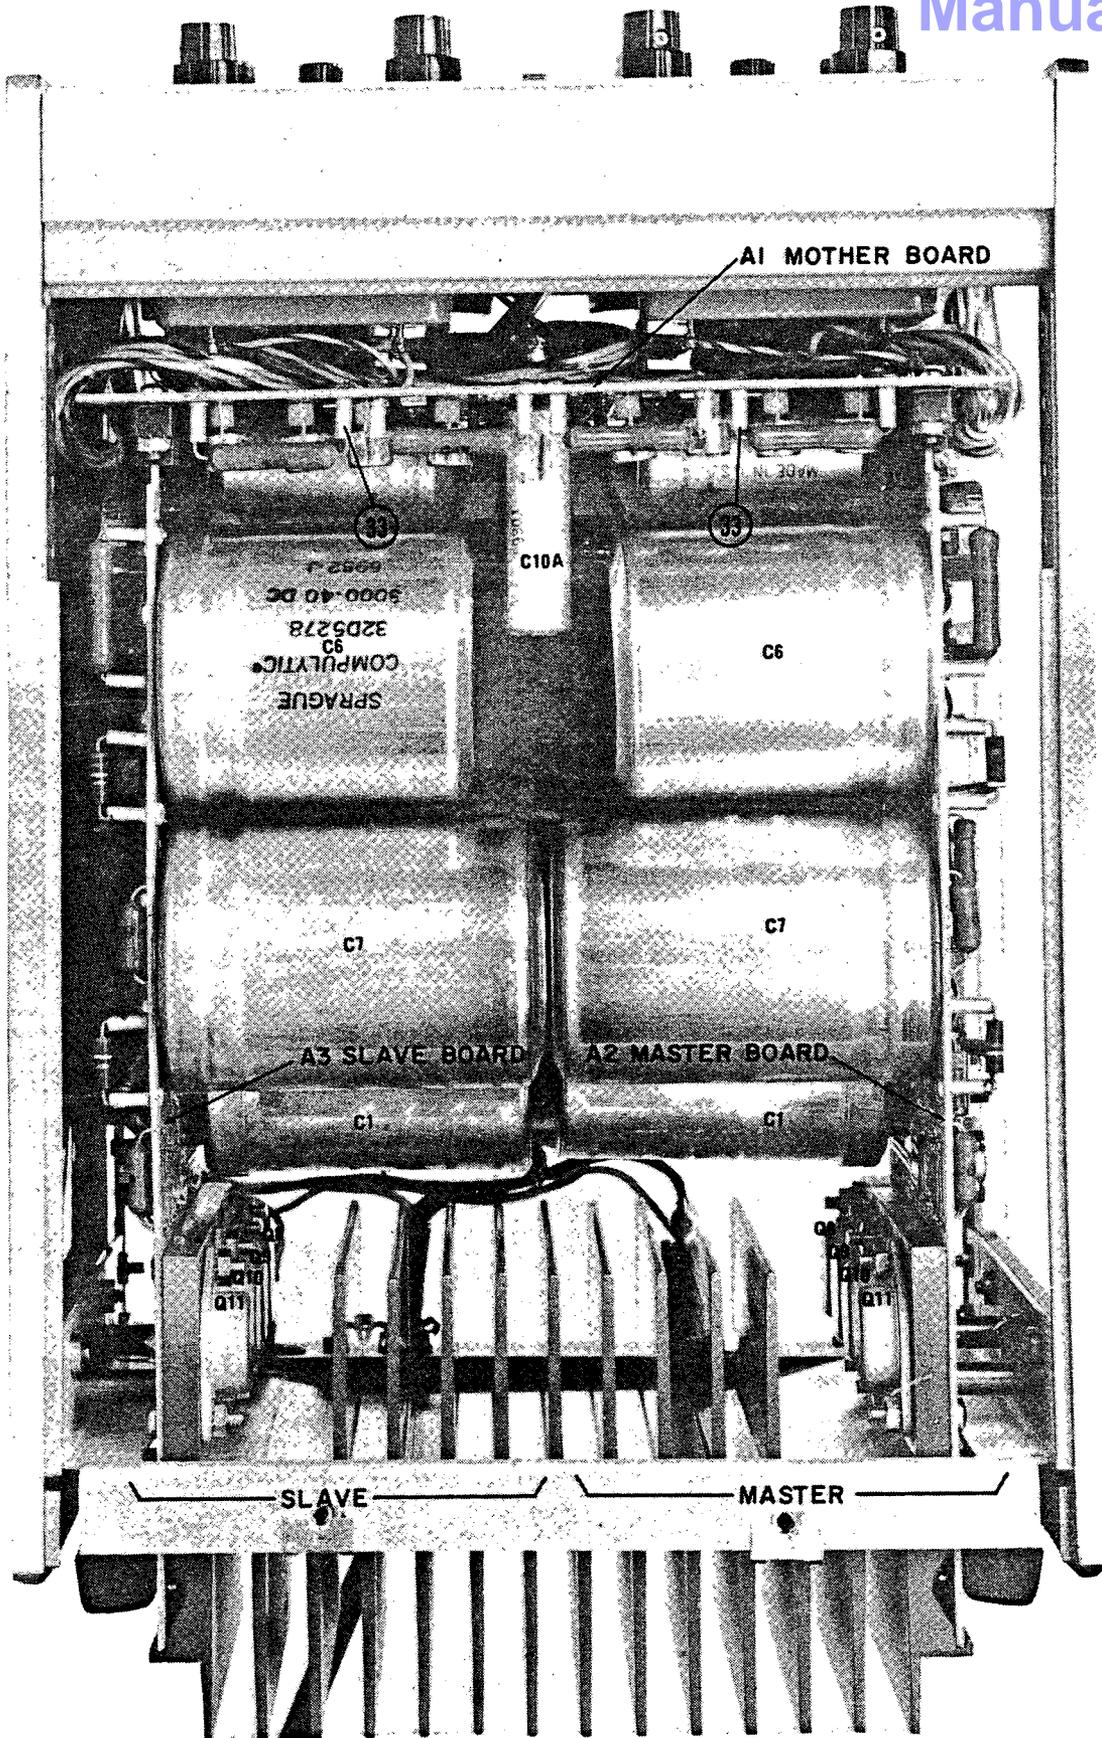

Figure 7-1. Main Chassis Component Location Diagram, Top View
a. Component location diagrams (Figures 7-1 through 7-6), showing the physical location and reference designators of parts mounted on the printed circuit boards and chassis.